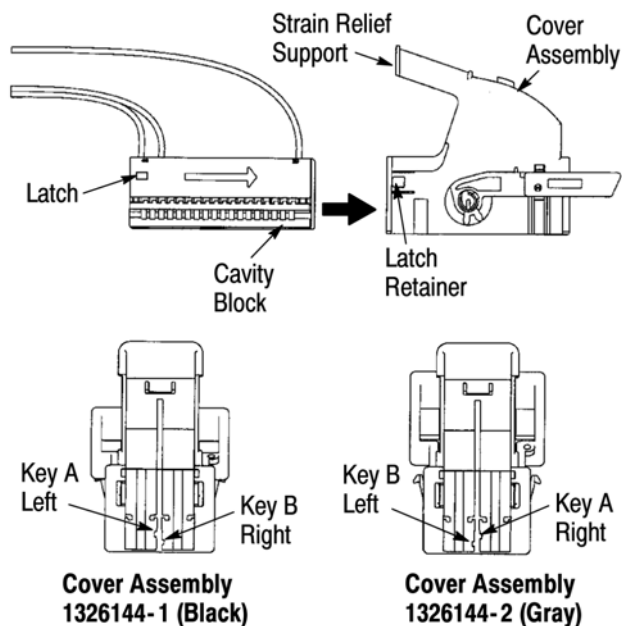

Figure 3
1. Bend all wires at approximately 90° in the opposite direction of the arrow on the side of the cavity block. See Figure 3.